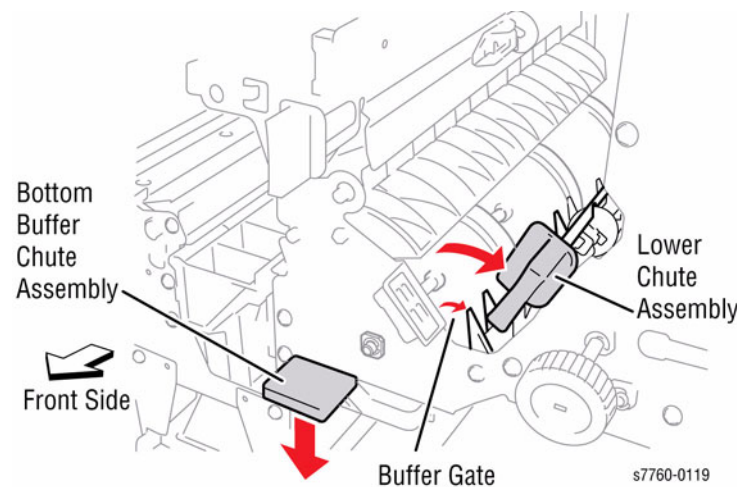

Figure 3 Removing Buffer Roll
- a. Open the Lower Exit Chute. Lower the bottom Buffer Chute Assembly (Figure 3).